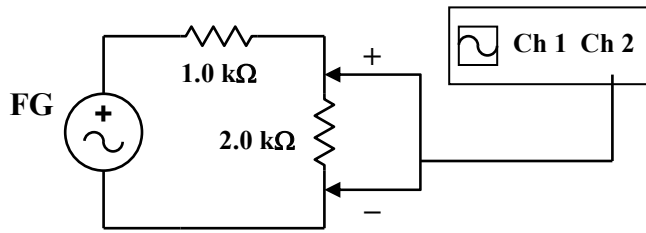

Figure 9.4a
15. Build the circuit shown in **Figure 9.4a**. Use **Channel 2** to measure the voltage across the $2.0 k\Omega$ resistor. From the graph on the scope display, determine V_{p-p} . *Is this what you would expect using voltage division?* Record in **Table 9-6**.